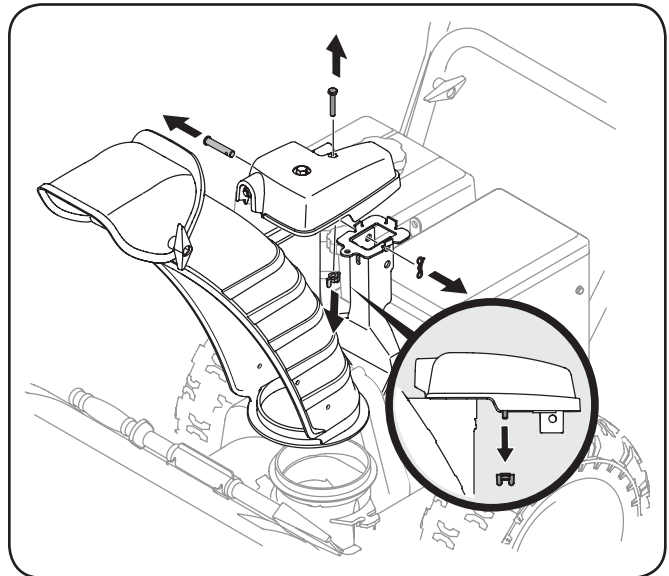

Figure 3-12
1. Remove wing nut and hex screw from chute control assembly and clevis pin and cotter pin from chute support bracket. Position the chute assembly (forward-facing) over the chute base. See Fig. 3-12.